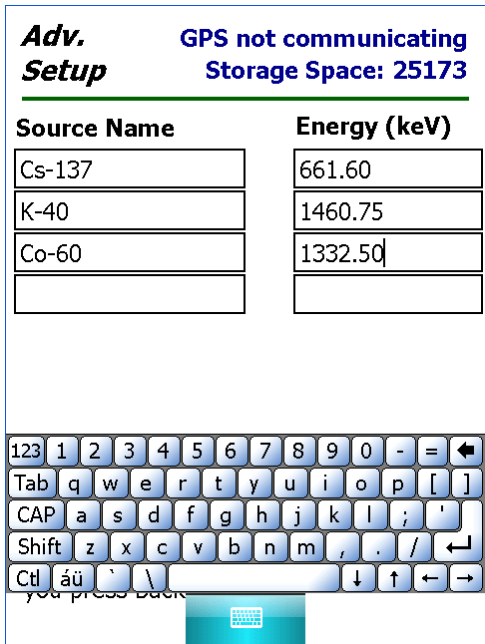

Figure 59. Enter the Peak Energy for a Calibration Source.
- To define a calibration source (up to two),¹⁴ tap the **Setup...** button to open the screen shown in Fig. 59. Tap in the **Source Name** field and use the soft keyboard to enter the name, tap in the **Energy Peak** field and enter the peak energy in keV, then tap **Back**